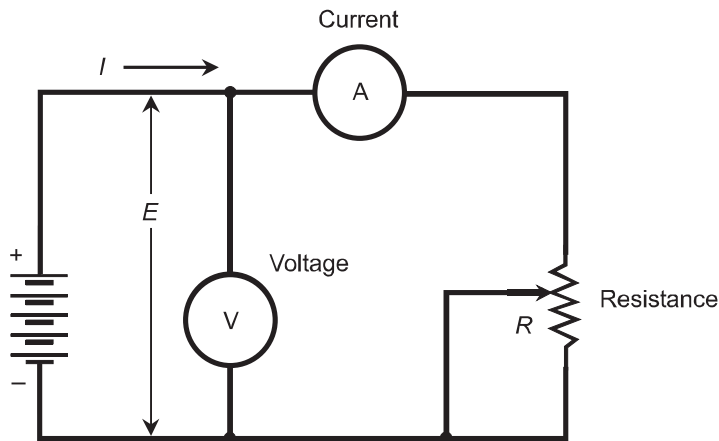

Fig. Test1-2. Illustration for Part One Test Questions 18 through 20.
18. Examine Fig. Test1-2. Suppose the battery supplies a voltage $E = 6$ V DC, and the current $I = 2$ A. What is the resistance R ?
19. In Fig. Test1-2, suppose the resistance $R = 120 \Omega$ and the current $I = 100$ mA. What is the battery voltage?
20. In Fig. Test1-2, suppose the voltage across the resistor is 18 V. What is the current flowing through ammeter A?